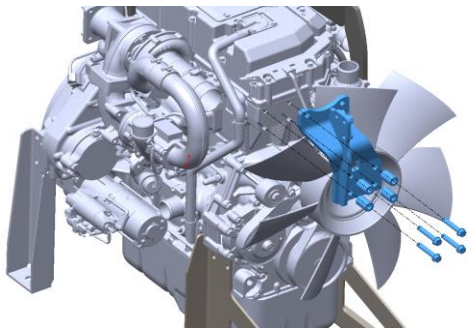

Figure 7
7. Loosely assemble the ATD mount bracket (4) on exhaust fan side as shown in the figure 7 using M12 spacers (19) and M12X70 bolts (17).